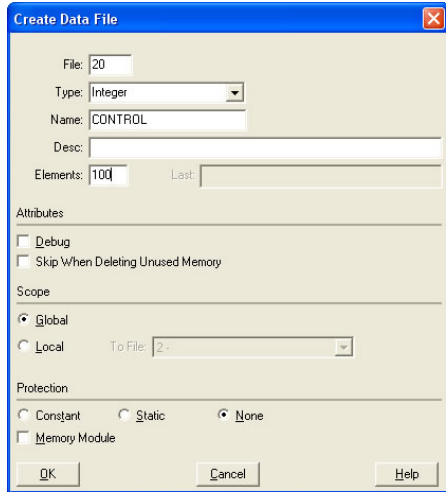

Figure 109: Creating a Control File
- a) Right click Data Files and select New... The "Create Data File" dialog box appears (refer to Figure 109).